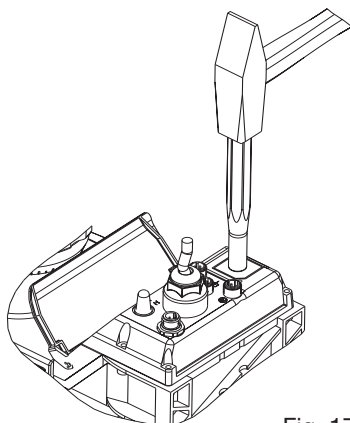

Fig. 17
- ▶ Place the S2Ca on a firm surface with the relay opening press-out section at the top (see fig. 17)